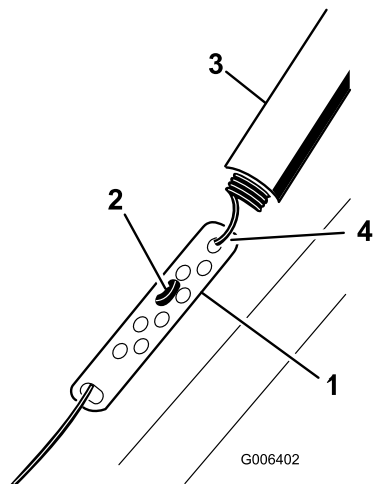

Figure 17
1. Slide up the spring cover and unhook the spring from the adjuster link (Figure 17).
2. Move the Z-fitting to a higher or lower hole on the adjuster link as needed to obtain the 1/16 inch to 1/8 inch (2 mm to 3 mm) gap between the control bar and the handle (Figure 17).